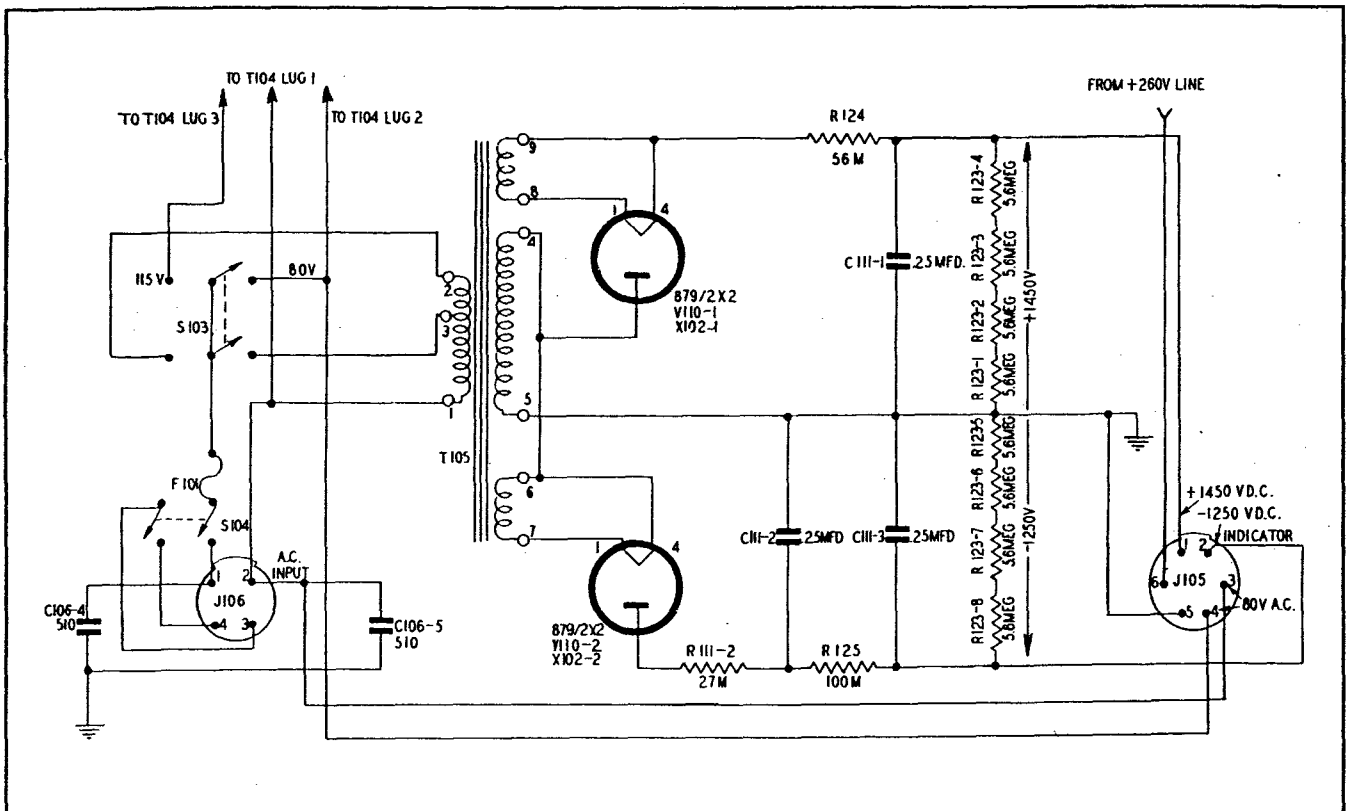

Figure 4-38. High-Voltage Power Supply
(6) HIGH-VOLTAGE POWER SUPPLY.—The high-voltage power supply, shown in figure 4-38, consists of transformer T-105, half-wave rectifier tubes V-110-1 and V-110-2, and associated capacitors and resistors. Transformer T-105 consists of a single tapped primary winding (terminals "1," "2," and "3") and three secondary windings, which include a single high-voltage winding (terminals "4" and "5") and two separate rectifier-filament windings (terminals "6" and "7," "8" and "9"). The rectifier system may be considered as two half-wave rectifiers with their outputs in series. One end of the high-voltage winding is connected to the plate of rectifier tube V-110-1 and the filament of rectifier tube V-110-2; the opposite end of the same winding is connected to ground, which is actually the center of the rectified output.